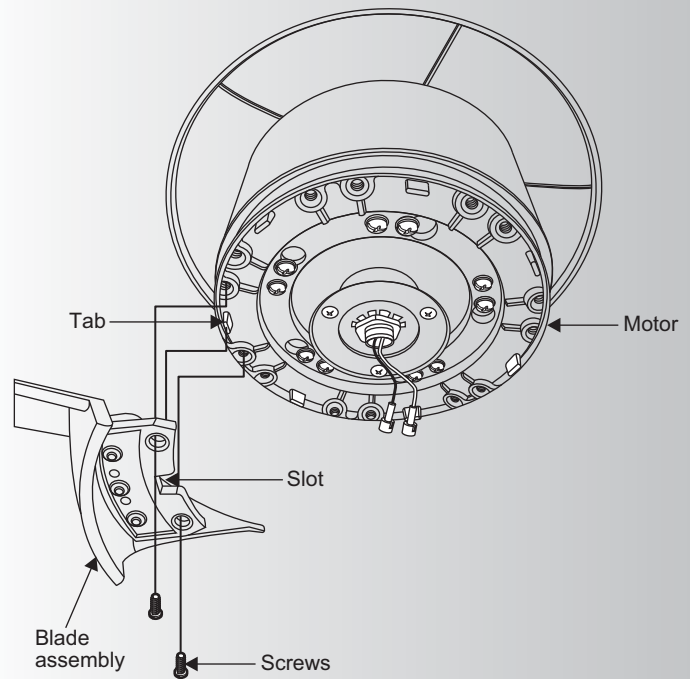

Fig. 14
Step 1 Attach the first blade assembly to the fan motor by lining up the slot of the blade assembly with the tab on the motor. Fasten the blade assembly to the motor using two screws and washer provided. (Fig. 14)